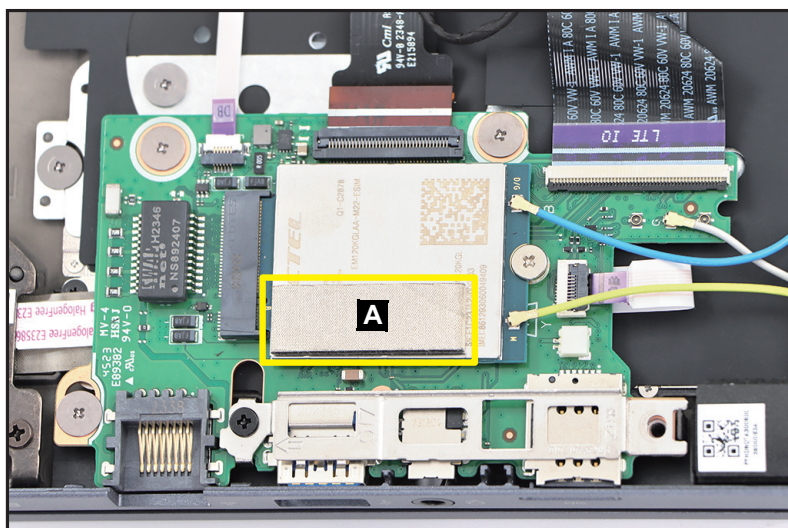

Figure 1-19. LTE Module Removal
1. Detach the gasket (A) from the LTE module (Figure 1-19).